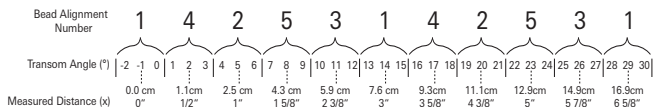
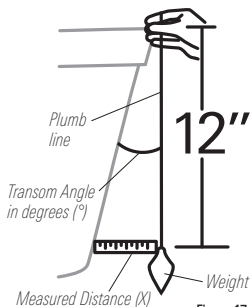

Figure 16
Figure 17
- If you already know your transom angle, refer to the chart below for the initial position to use to set the ratchets (Figure 16). If your transom is angled at 14 degrees (a common transom angle for many boats) use position 1 for the ratchets. In either case, go to step 2.
- If you do not know your transom angle, measure it using a plumb line (weighted nylon string or monofilament line) exactly 12 inches long. Hold the top of the plumb line against the top of the transom with your finger, and wait until the line hangs straight down (Figure 17). Using a ruler, measure the distance from the **bottom** of the plumb line to the back of the transom, then use the chart (Figure 16).
NOTE: It is important to take your measurement in the location shown in Figure 17, from exactly 12 inches down from the top of the transom.